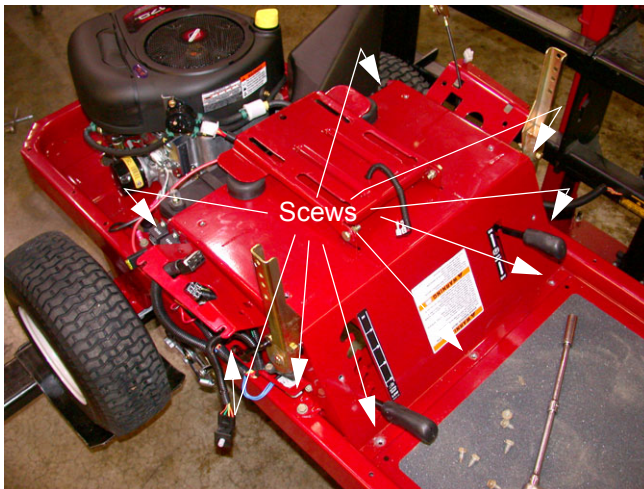

Figure 15.10
- 15.10. Remove the nine hex washer head tapp screws securing the seat box frame to the frame of the unit. See Figure 15.10.